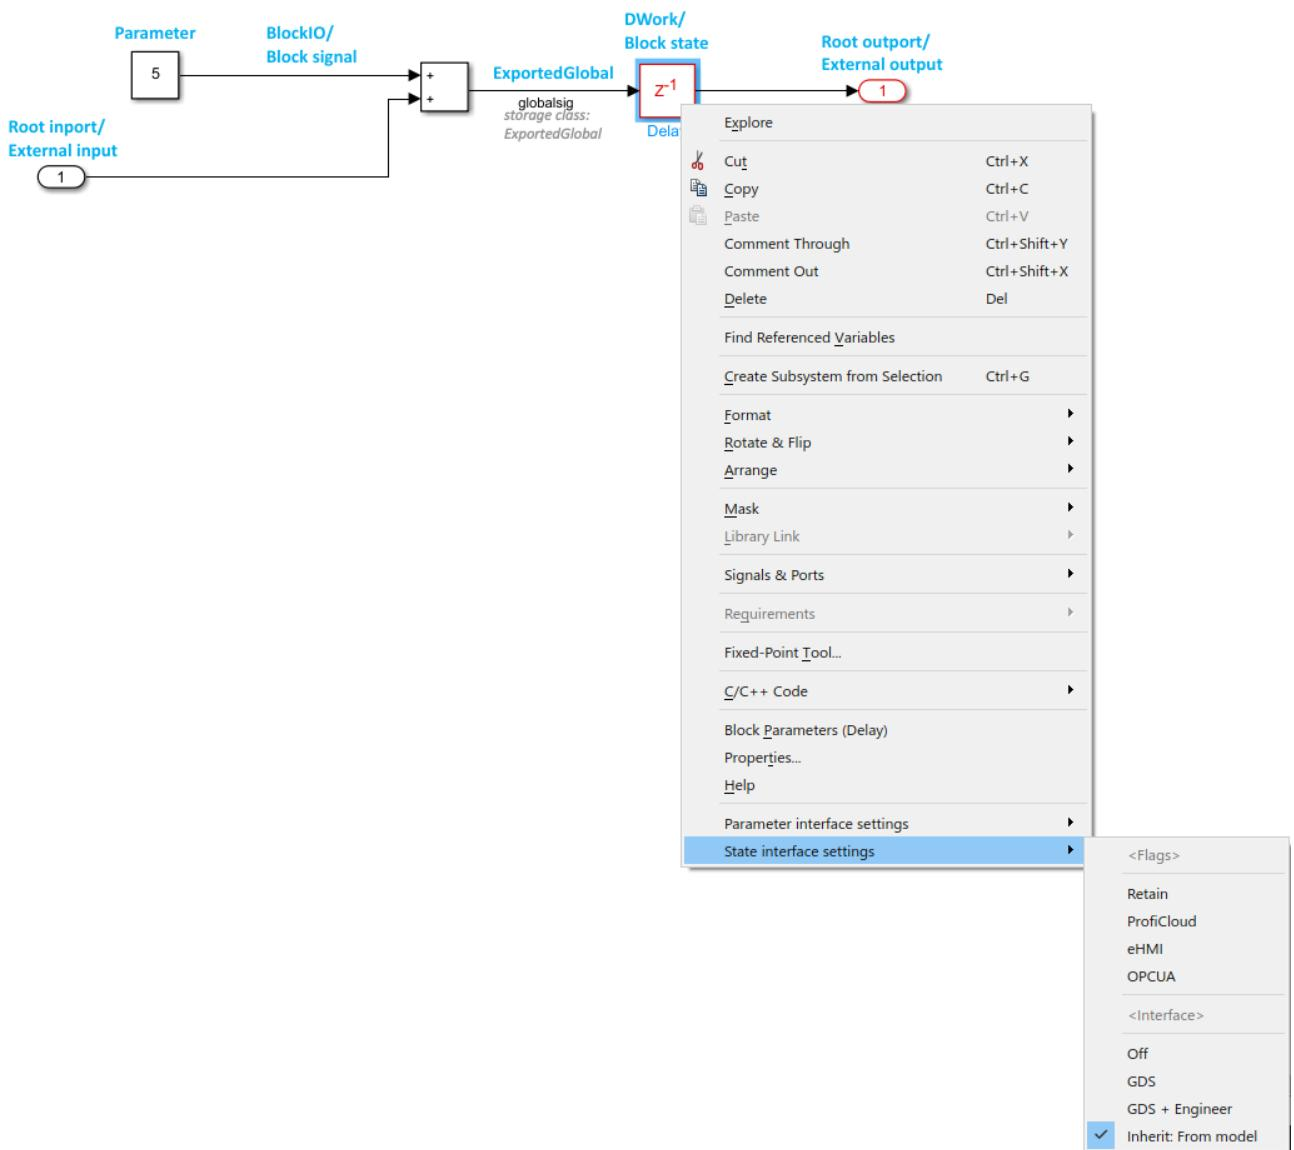

Figure 5-8 Example: setting a meta flag via the context menu of a delay block
- In the context menu, use the “Parameter interface settings” entry or the “State interface settings” entry to select the desired meta flag (parameter flag or state flag, see example in Figure 5-8).